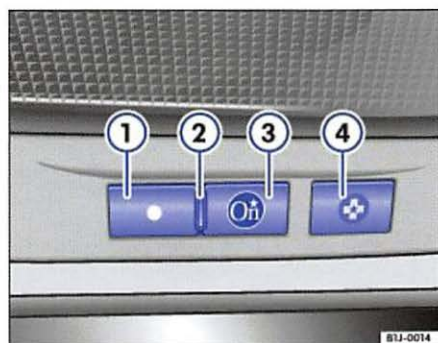

Fig. 8 OnStar: DOT button
- Press the DOT button ⇒ fig. 8 ①, OnStar response: <Ready>.
- Press the DOT button ⇒ page 11, fig. 8 ①, OnStar response: <Ready>.